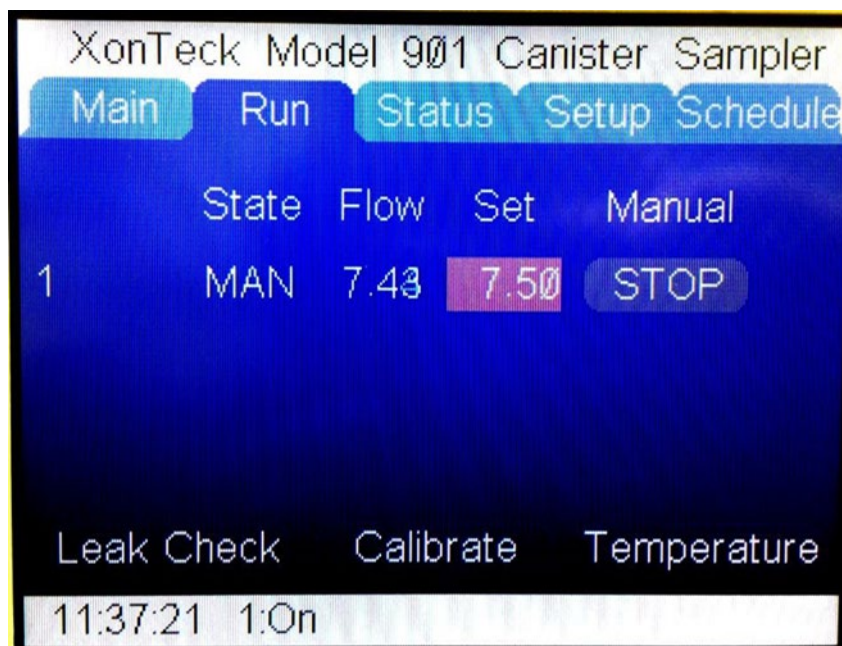

Figure 6. Calibrate option is located at the bottom-center of the screen.
- 3.2.3 On the Xonteck display, select the **RUN** tab and press the **CALIBRATE** button at the bottom of the screen (Figure 6). The Calibration screen will appear (Figure 7).